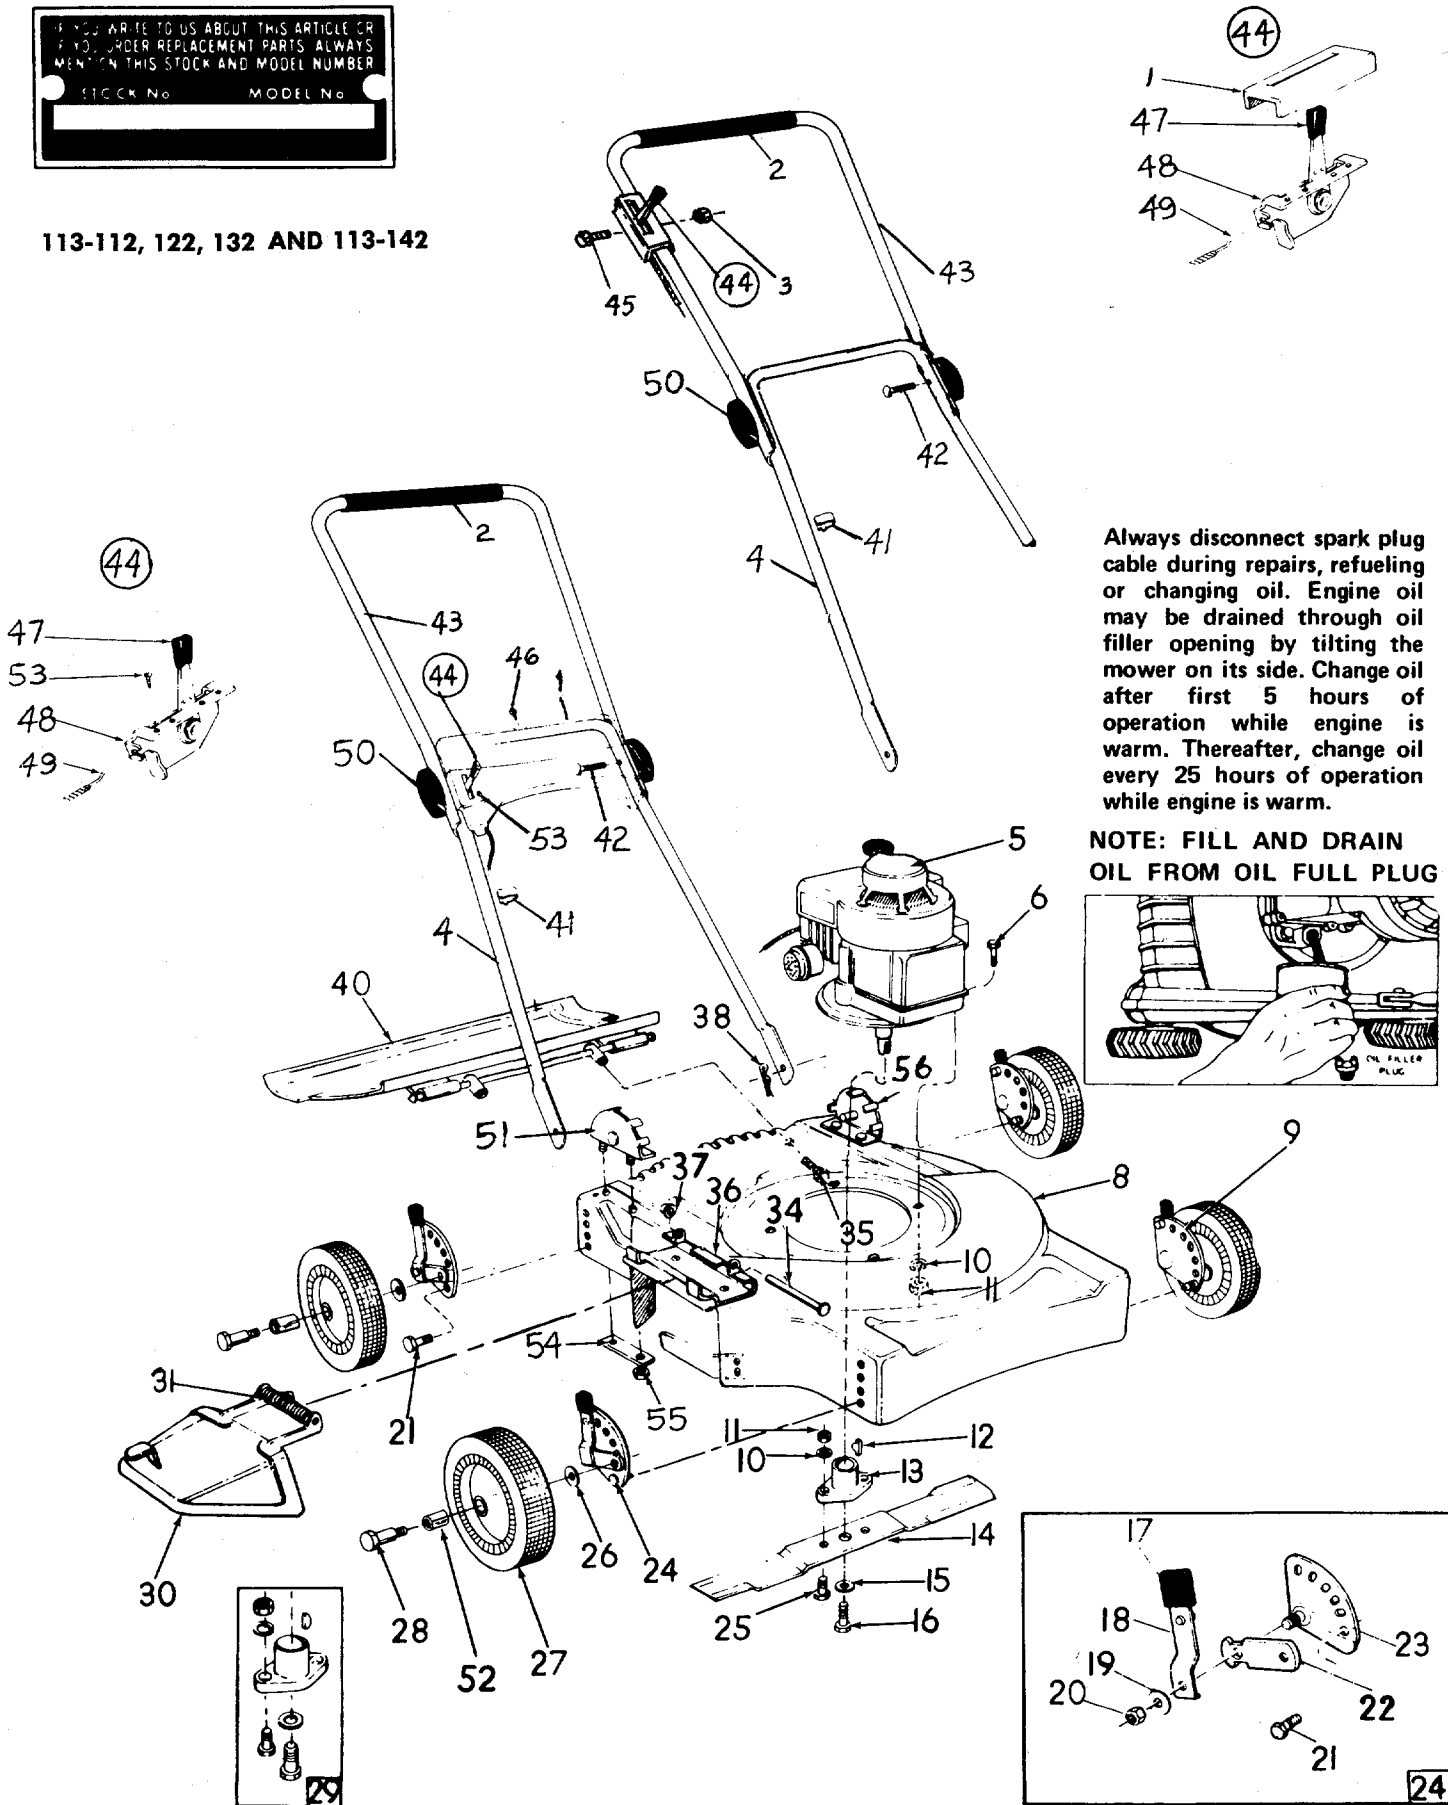

**FIGURE 5.**
7. Place the throttle control in the handle panel and assemble it with the two throttle screws using a screwdriver. See figure 5.